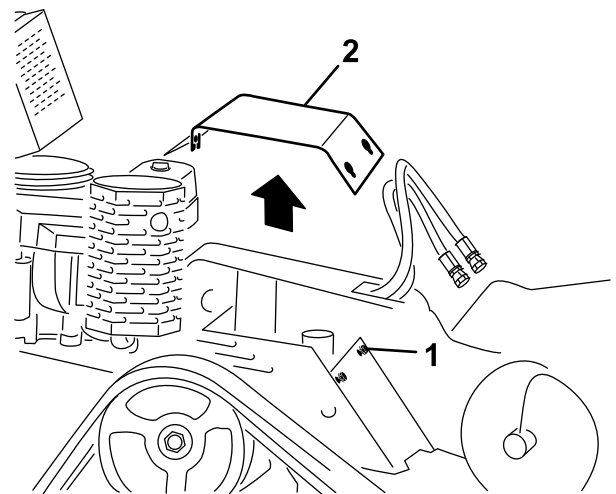

Figure 21
4. Loosen the 3 bolts securing the cover plate to the frame sequentially until the cover is loose (Figure 21).
1. Bolt (3)
6. To install the cover plate before operating the machine, slide the plate into place and secure it with the 3 bolts you loosened previously (Figure 21).